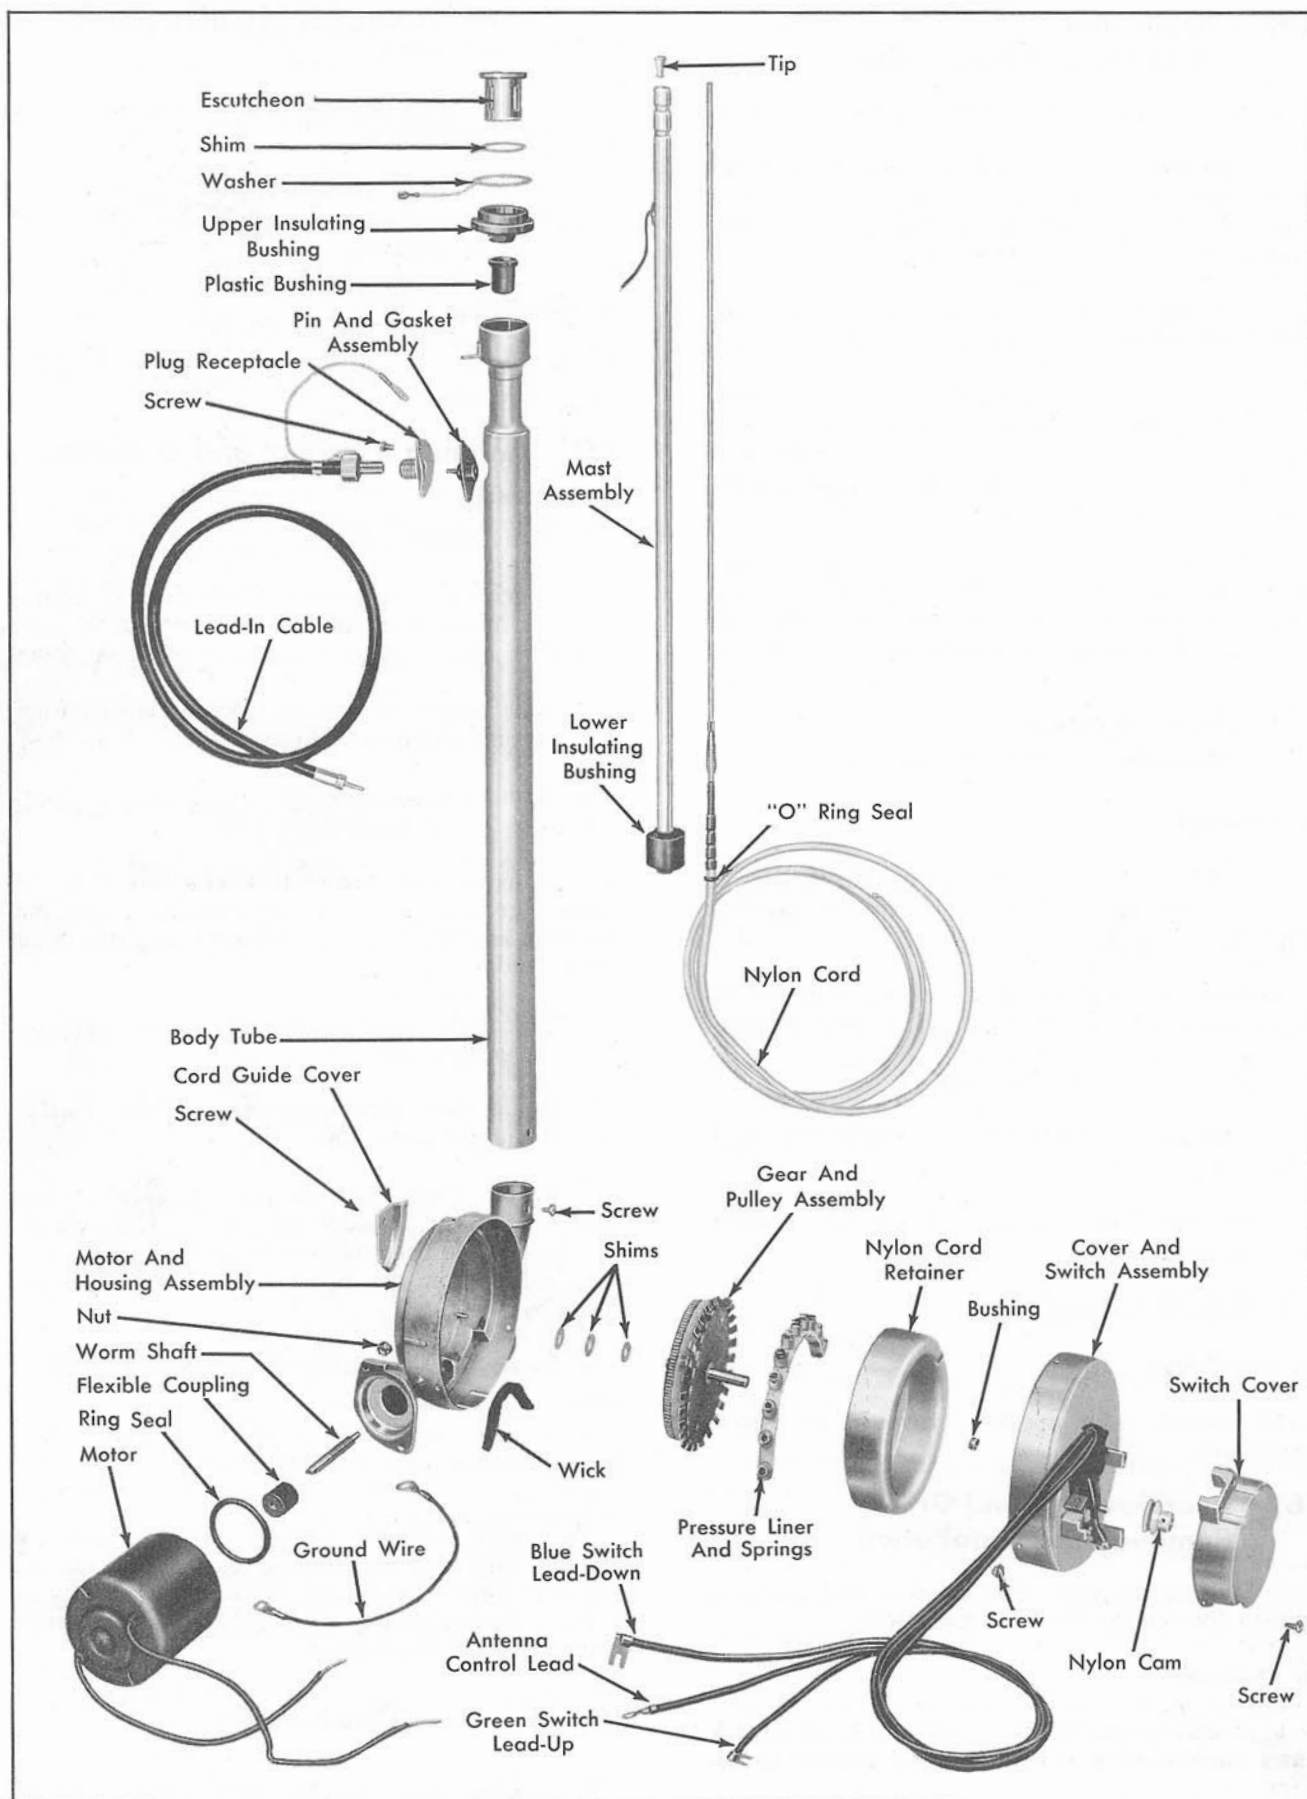

Fig. 15-1 Antenna Disassembled
1. Remove three screws from side of motor and housing assembly cover, and lift off cover. Refer to Fig. 15-1.
3. Remove two screws from top of antenna body tube and remove plug receptacle. See Fig. 15-1.